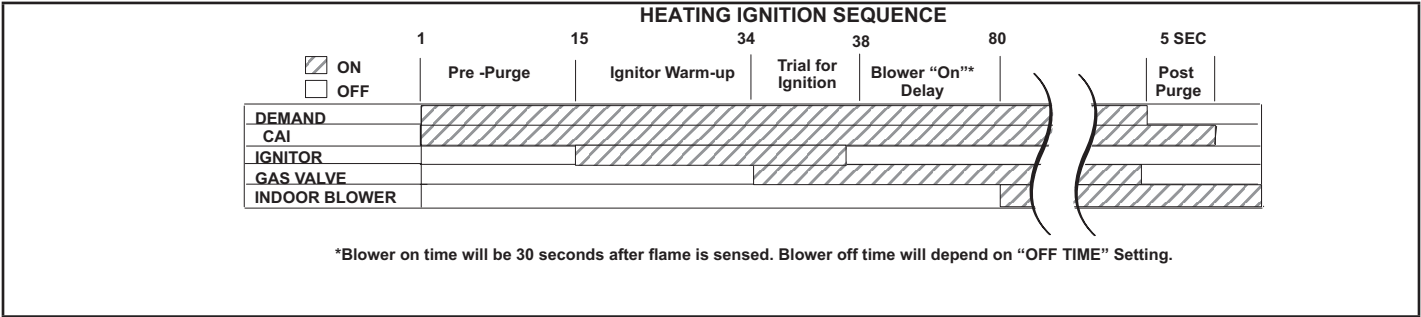

FIGURE 5
One line voltage "ACC" 1/4" spade terminal is provided on the furnace integrated control. See FIGURE 5 for integrated control configuration. This terminal is energized when the indoor blower is operating. Any accessory rated up to one amp can be connected to this terminal with the neutral leg of the circuit being connected to one of the provided neutral terminals. If an accessory rated at greater than one amp is connected to this terminal, it is necessary to use an external relay.
One line voltage "HUM" 1/4" spade terminal is provided on the furnace integrated control. See FIGURE 5 for integrated control configuration. This terminal is energized in the heating mode when the combustion air inducer is operating. Any humidifier rated up to one amp can be connected to this terminal with the neutral leg of the circuit being connected to one of the provided neutral terminals. If a humidifier rated at greater than one amp is connected to this terminal, it is necessary to use an external relay.
One 24V "H" 1/4" spade terminal is provided on the furnace integrated control. See FIGURE 5 for integrated control configuration. The terminal is energized in the heating mode when the combustion air inducer is operating and the pressure switch is closed. Any humidifier rated up to 0.5 amp can be connected to this terminal with the ground leg of the circuit connected to ground or the "C" terminal.
The hot surface ignition control system consisting of an integrated control FIGURE 5 with control terminal designations in TABLE 1, TABLE 2, TABLE 3, sensor and ignitor FIGURE 7. The integrated control and ignitor work in combination to ensure furnace ignition and ignitor durability. The integrated control controls all major furnace operations. The integrated control also features a RED LED for troubleshooting and two accessory terminals rated at (1) one amp. See TABLE 4 for troubleshooting diagnostic codes. The nitride ignitor is made from a non-porous, high strength proprietary ceramic material that provides long life and trouble free maintenance.
Heating Ignition Sequence FIGURE 5